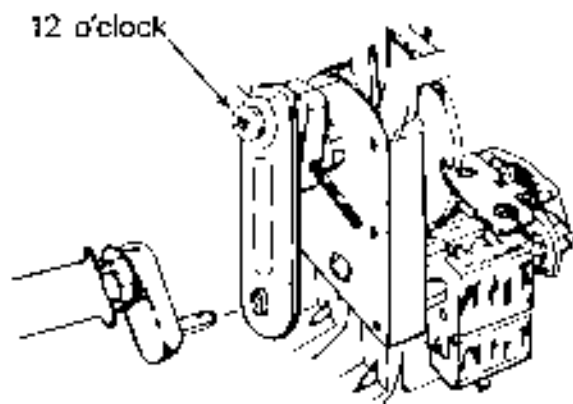
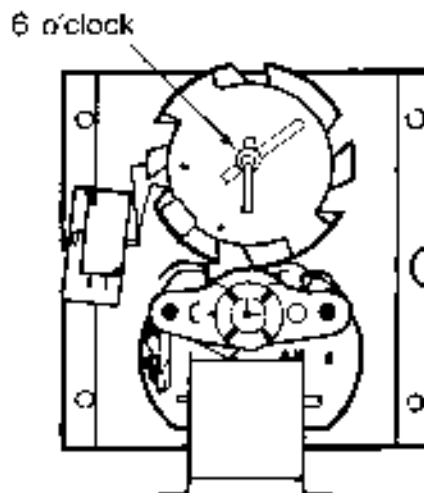

Fig. 10
Fig. 11
1. Make sure the hole through the rear shaft is in a horizontal plane. (If a pin were inserted in the hole, the pin would be horizontal). See Fig. 10.
2. Slide the Drive Arm (with linkage attached) onto the rear shaft as shown. See Fig. 10.
6. Install the vending cam onto the front shaft of the motor making sure that the lock tab is at 6 o'clock as shown. See Fig. 11.
NOTE: When the screw holding the linkage arm to the drive arm is at a 12 o'clock position (See Fig. 10), the lock tab will be at the 6 o'clock position (See Fig. 11).